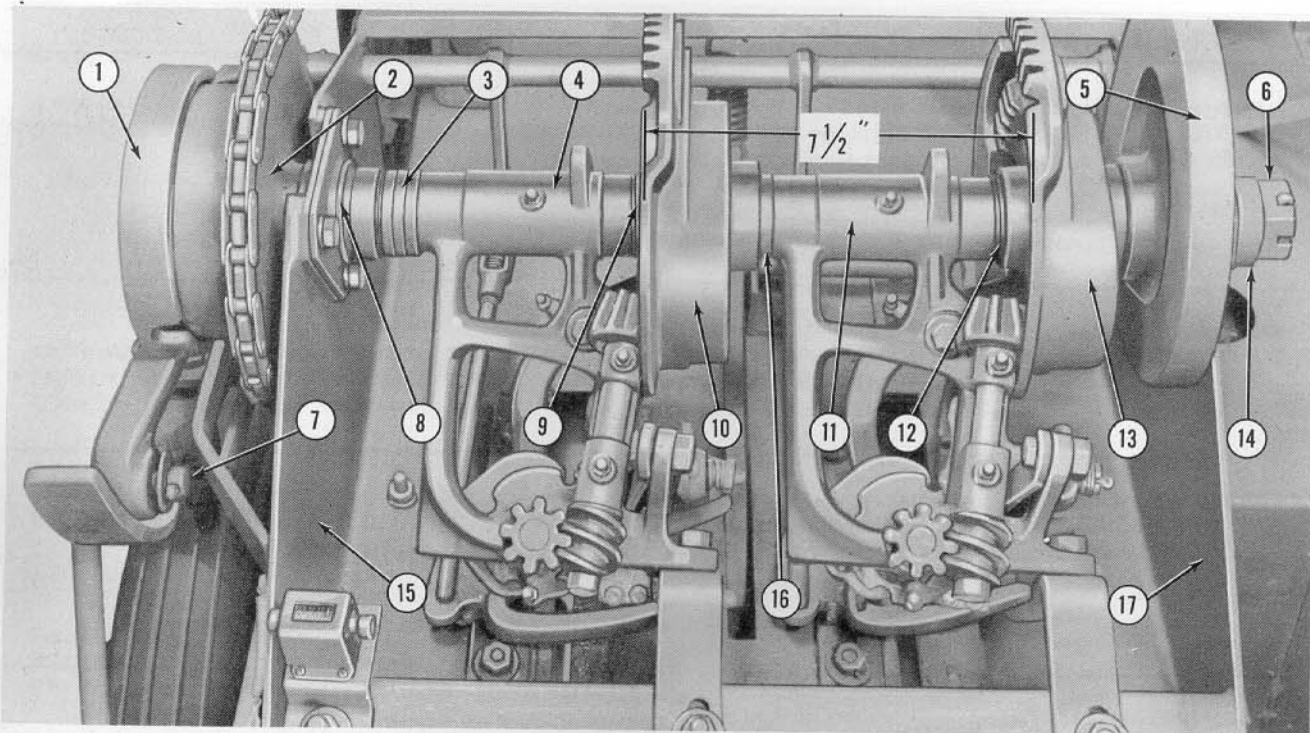

Figure 28
3. Turn the castellated nut (6), Figure 28, on the right end of the knotter shaft until the cotter pin can be inserted.
4. Install the right hand flanged bearing (14), Figure 28, with the collar to the right as shown. Do not tighten the Allen screws in the bearing at this time.
5. Install the knotter cam (5), Figure 28, on the shaft.
6. Install the knotter cam gear (13), Figure 28, on the shaft as shown.
7. Install spacer washers (12), Figure 28, as needed, then install the right knotter assembly (11). Spacer washers (12) should be added or removed until the flats of the knotter pinions ride squarely against the machined surfaces of the cam gear without binding.
8. Install spacer washers (16) as required, then install the left knotter cam gear (10), Figure 28, as shown. The distance between the machined
9. Position the left knotter assembly (4) on the shaft, adding washers at (9), Figure 28, for relation of the pinion and cam gear as outlined in step 7 above.
10. Install spacer washers (3), Figure 28, as needed, then place the left flanged bearing (8) on the shaft.
11. Attach the right and left bearings on the right side of the mounting brackets (15) and (17), Figure 28.
12. Position the knotter driven sprocket (2), Figure 28, on the left end of the shaft. Add or remove washers until the knotter driven sprocket is properly aligned with the drive sprocket.
13. Place the $\frac{1}{32}$ inch flat washer on the shaft and install the knotter clutch (1), Figure 28. Secure with the washer and castellated nut. Tighten the castellated nuts on each end of the knotter shaft until the assembly is snug without binding.
15. Back off the nut on the left end of the knotter shaft until the knotter clutch sprocket turns freely, then install cotter pins through both castellated nuts. Tighten the Allen screws in the knotter clutch (1), Figure 28.
16. Connect the needle yoke drive rod to the knotter clutch arm as shown at (7), Figure 28.